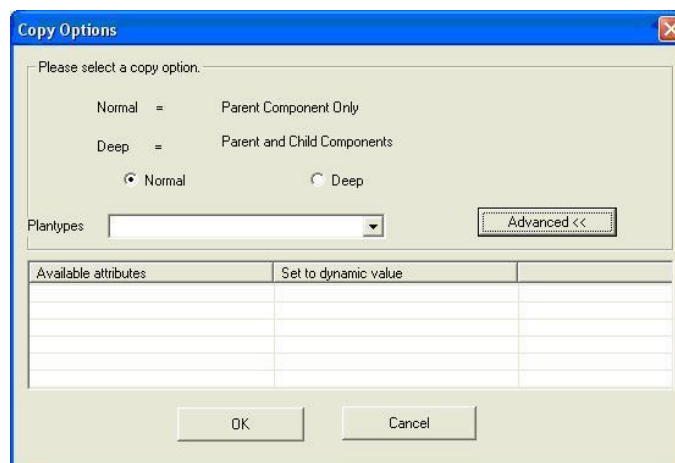

Figure 144: Expanded Copy Options Dialog
- 8) Click **Advanced** to enter the attribute values per planttype basis. The Figure 144 apperas: